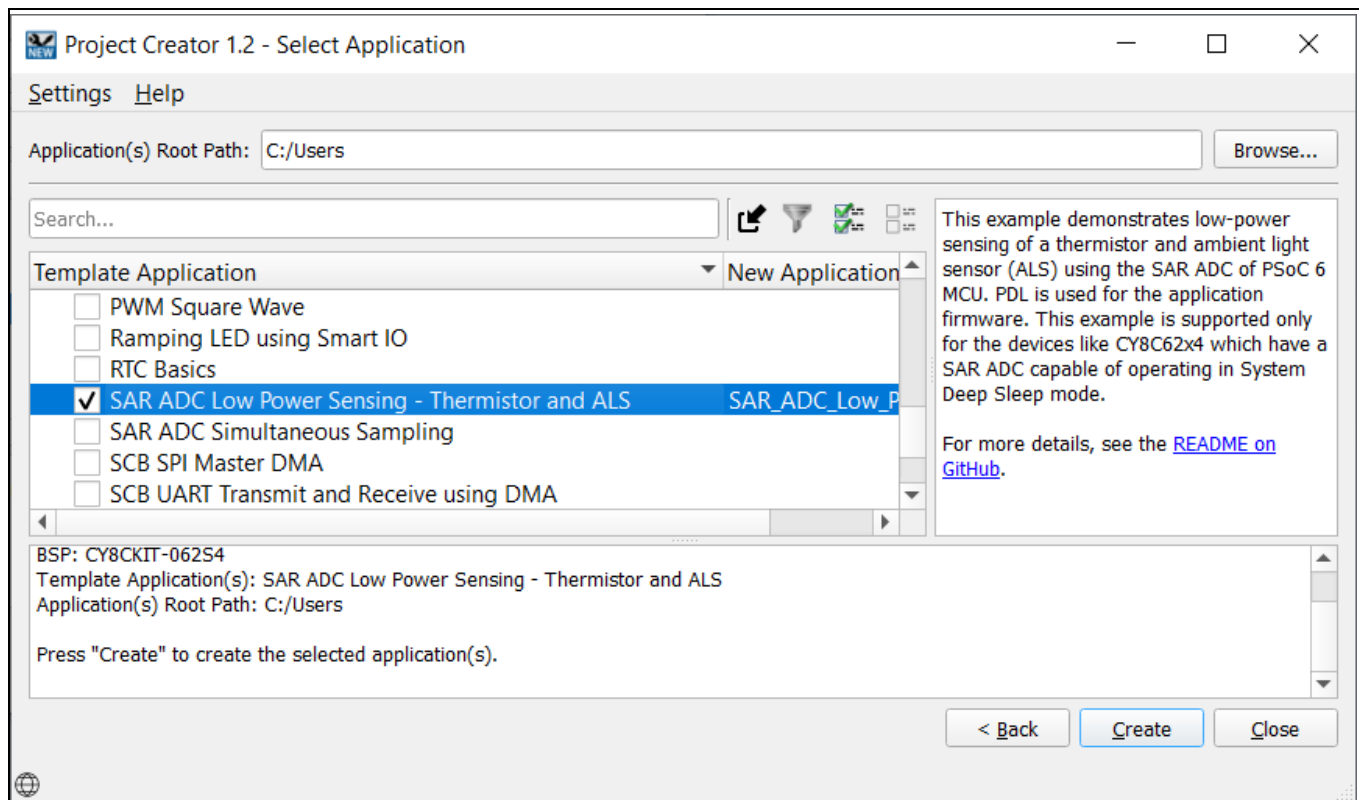

Figure 9 CY8CKIT-062S4 Application Selection
- c) Select the application and click **Create**, as shown in Figure 9.